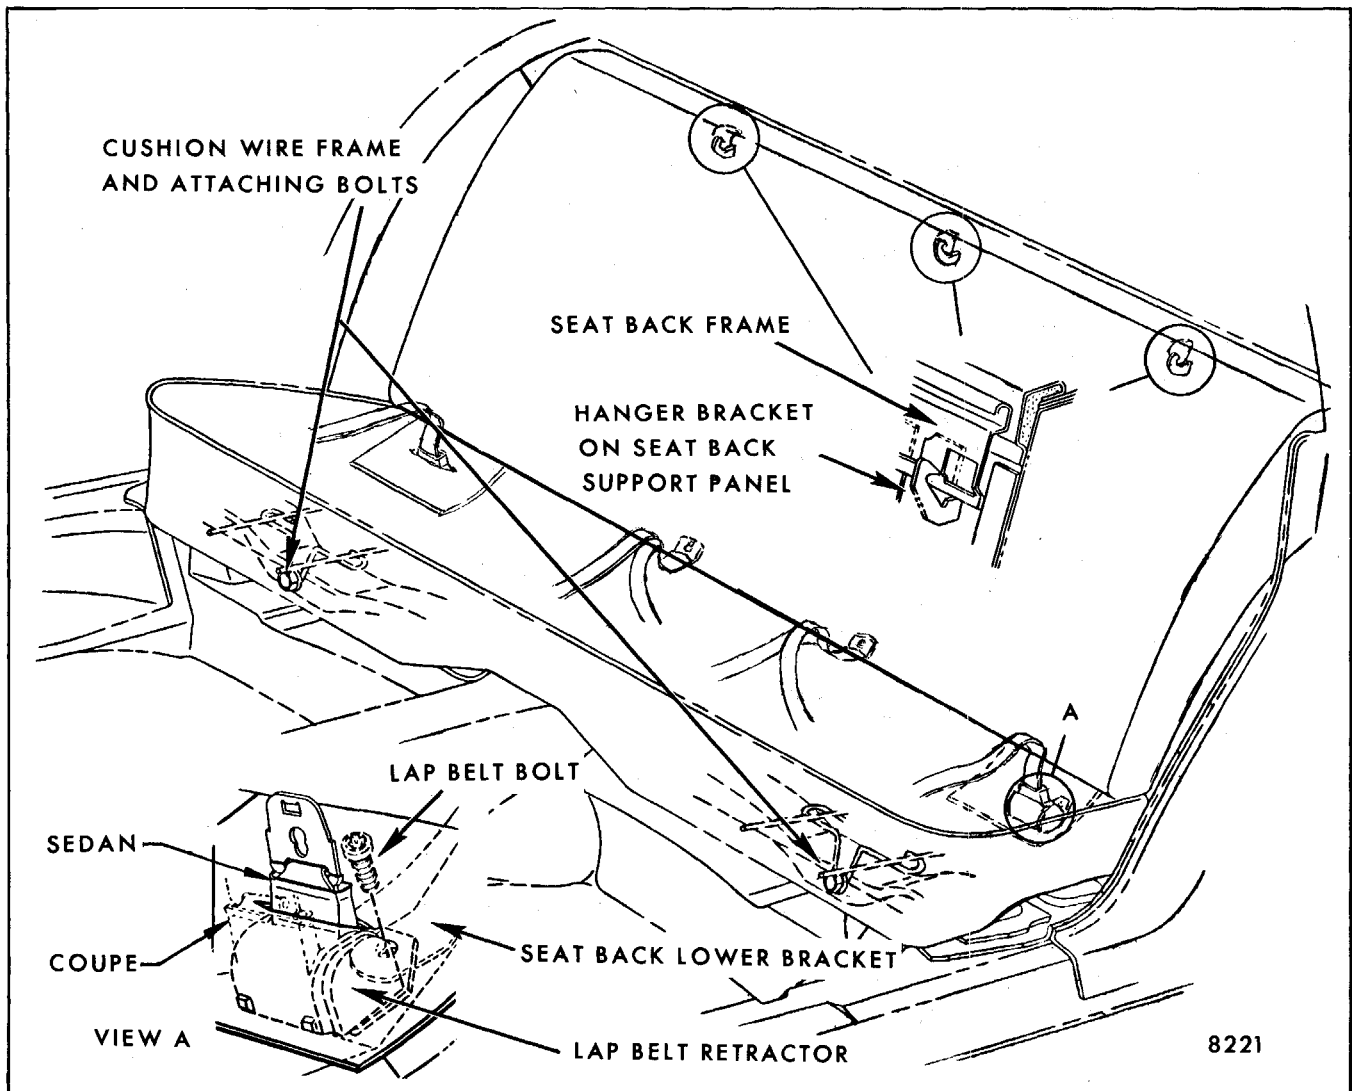

Fig. 9-96-Rear Seat Cushion and Back Installation - All A Styles Except Station Wagons
1. Under front of rear seat cushion, remove two bolts securing rear cushion wire frame to floor pan (Fig. 9-96).